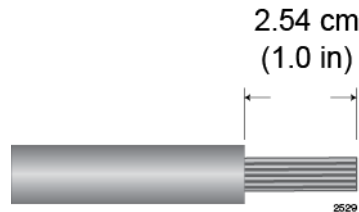

Figure 123. Stripping Solid or Stranded DC Power Wires
1. Prepare adequate lengths of two solid or stranded 8 AWG DC power wires by stripping them as shown in Figure 123.